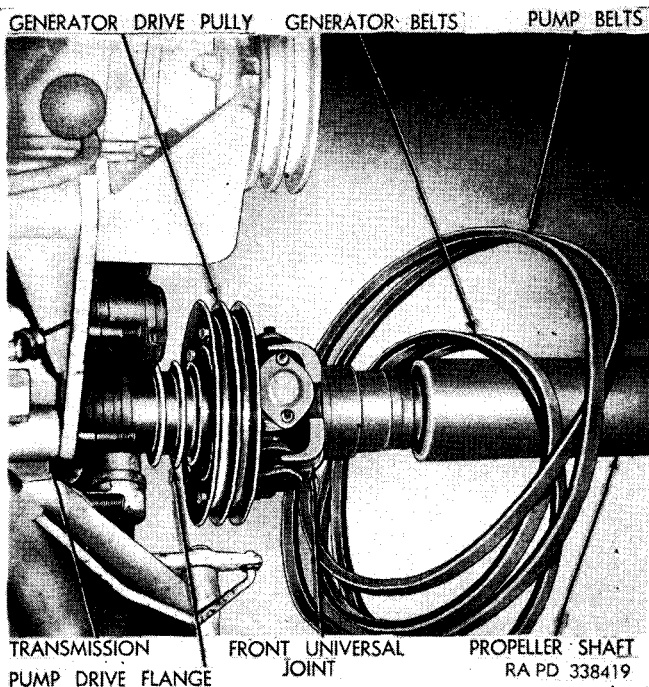

Figure 20. Generator drive pulley and pump drive flange—installed.
h. INSTALL GENERATOR DRIVE PULLEY (fig. 20). Place the two generator and two pump drive belts over the propeller shaft with the universal joint cross in place. Maneuver the universal joint flange yoke and install the generator drive pulley on the pump drive flange, with the counterbored groove toward the flange (fig. 17). Align the holes of universal joint flange yoke, generator drive pulley, and pump drive flange, and secure with bolts and nuts. Lock wire the nuts.